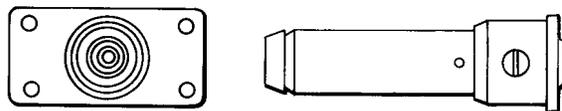

Fig. 12—512A Plug
**2.11 512A:** The 512A (Fig. 12) is a coaxial type plug. On the mounting end, the center conductor is arranged for soldered wire connections. The other end is arranged for use with 477A- or similar-type jacks. The 512A plug is not arranged for connection to a coaxial cable and is used with the KS-20796 earth-ground filter. This plug replaces the 472A plug.